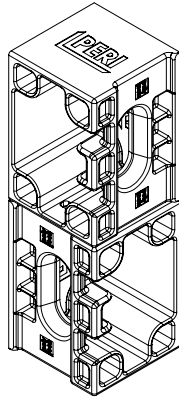

Fig. B5.10a
- internal corners (Fig. B5.10a)